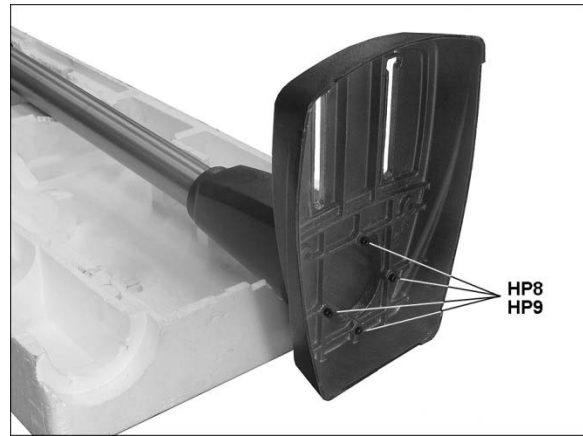

Figure 5
3. Lay the column assembly down on an elevated surface (such as the included polystyrene packaging). Attach base to column foot with four M8x50 socket head cap screws and four 8mm flat washers (HP8/HP9, *Figure 5*), using a 6mm hex key. NOTE: Align base and foot so that their edges are flush.